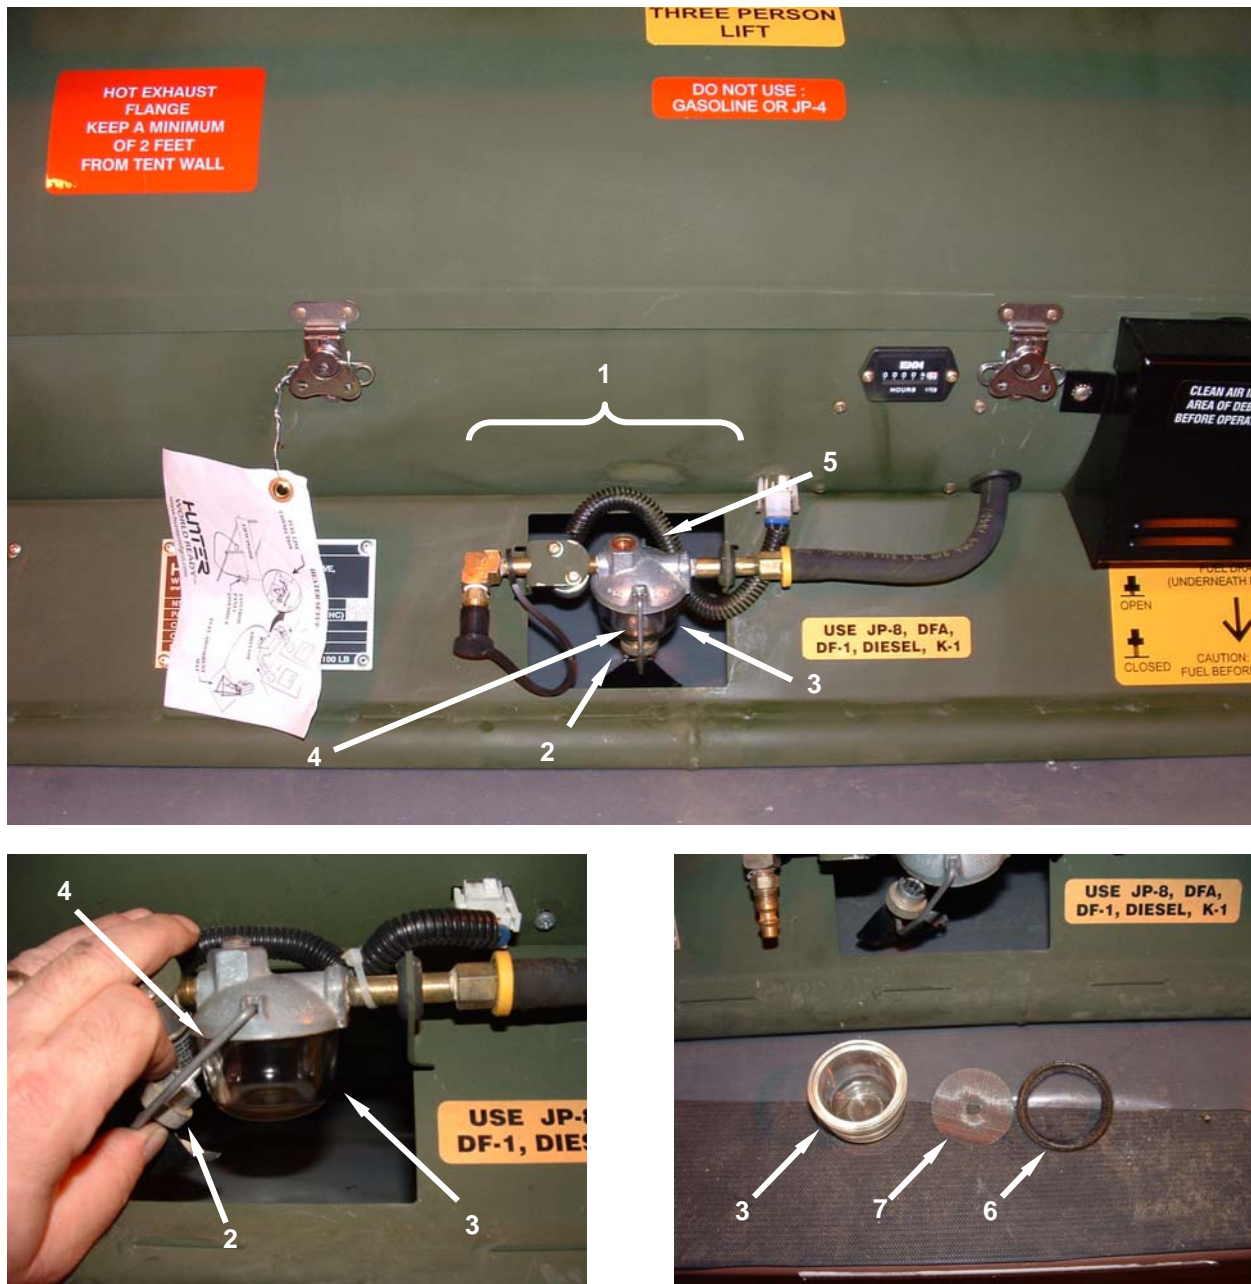

Figure 2. Service Fuel Solenoid and Sediment Strainer Assembly.
1. To clean and service the sediment strainer (**Figure 2, Item 1**), first place a petroleum absorbent mat under the heater in the area of the sediment strainer.
2. Loosen the knurled nut (**Figure 2, Item 2**) at the base of the sediment strainer bowl (**Figure 2, Item 3**).
3. Rotate the bale (**Figure 2, Item 4**) to the right and upward while supporting the bowl (**Figure 2, Item 3**).
4. Rock the bowl (**Figure 2, Item 3**) slightly and remove it from the sediment strainer top assembly (**Figure 2, Item 5**).
5. Empty the fuel from the bowl (**Figure 2, Item 3**) into an approved container and discard. Do not empty the fuel into a fresh fuel supply. Wipe the bowl clean with a lint-free rag or wiping towel.
6. Remove the gasket (**Figure 2, Item 6**) and screen (**Figure 2, Item 7**) from the sediment strainer top assembly (**Figure 2, Item 5**).
7. Rinse the gasket (**Figure 2, Item 6**) and screen (**Figure 2, Item 7**) in clean approved fuel, ensuring all sediment is removed.
8. Install the gasket (Figure 2, Item 6) and screen (Figure 2, Item 7) in position on the sediment strainer top assembly (Figure 2, Item 5).
9. Replace the bowl (Figure 2, Item 3) under the sediment strainer top assembly (Figure 2, Item 5).
10. Rotate the bale (Figure 2, Item 4) downward and center under the bowl (Figure 2, Item 3).
11. Tighten knurled nut (Figure 2, Item 2) at base of sediment strainer bowl (Figure 2, Item 3).